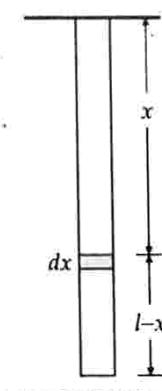

Fig. 9.12
**Solution.** As shown in Fig. 9.12, consider a small element of thickness  $dx$  at distance  $x$  from the fixed support. Force acting on the element  $dx$  is